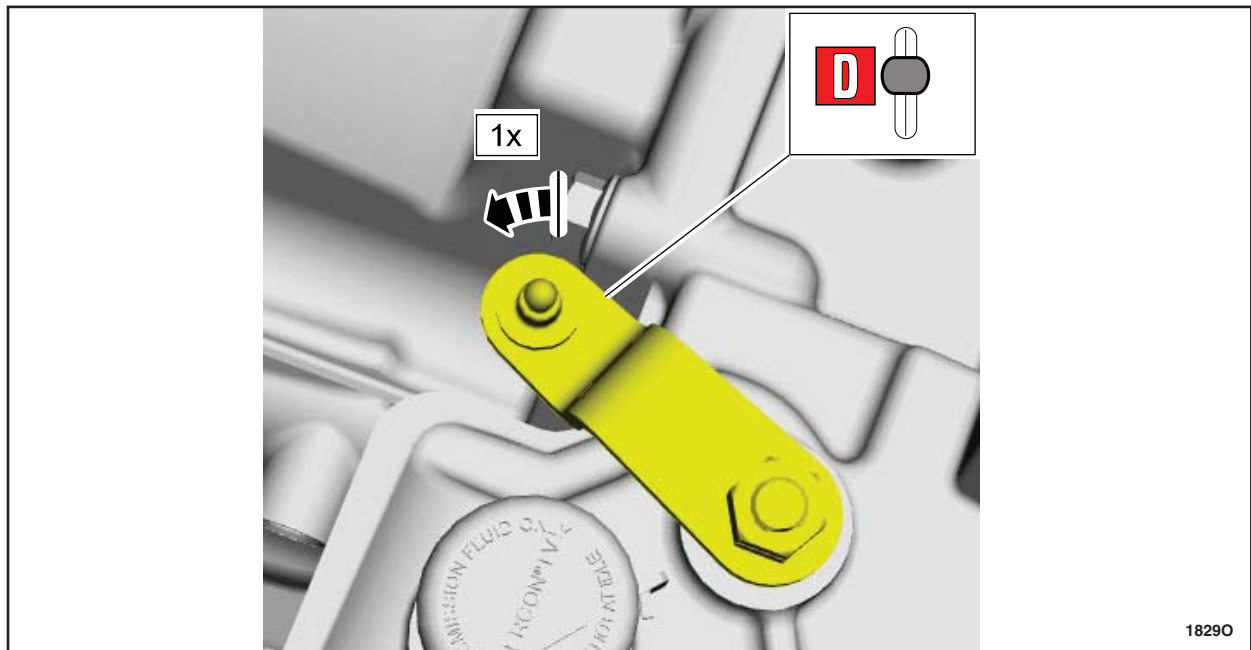

FIGURE 11
12. Rotate the manual control lever counterclockwise 1 detent into Drive (D). See Figure 11.